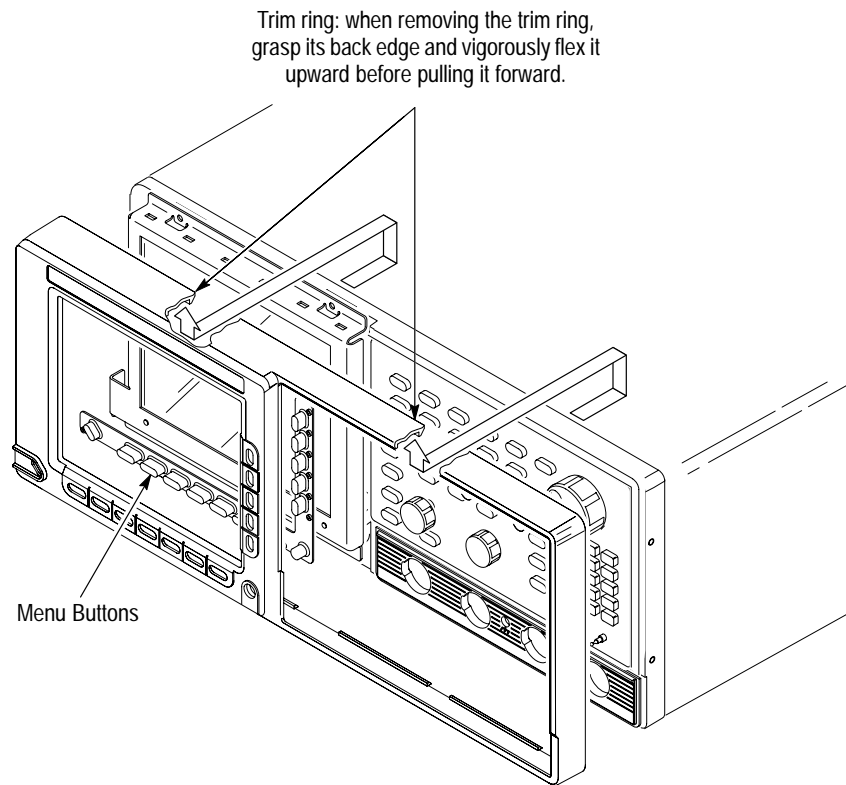

Figure 4: Trim Ring Removal
- c. Remove the standard trim ring:** Grasp the trim ring by its top edge; then pry it up and lift it forward to snap it off of the front subpanel. Set the trim ring aside face down on the work surface. See Figure 4.